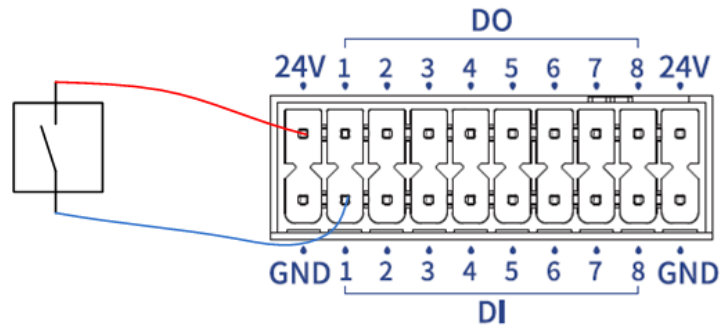

Figure 6.9 DI wiring (simple switch)
1. When you use an external simple circuit as the DI input, the wiring is shown in Figure 6.9.